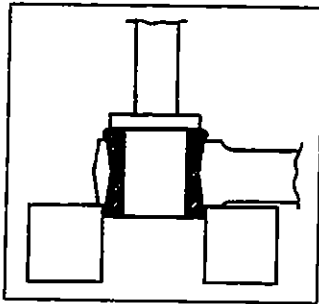

Figure 8
- Safely support the radius rod as shown in figure 8.
2. Place a flat steel disc, slightly smaller than the outside diameter of the bushing (see fig. 8).